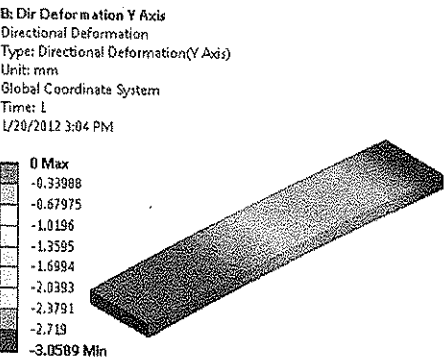

Figure 9-20 Directional Deformation with respect to Y axis
Figure 9-20 shows the default view of the finite element model with the Directional Deformation with respect to Y axis.
10. Select **Directional Deformation** in the Tree Outline; the corresponding deformation along the Y axis is displayed in the Graphics screen, refer to Figure 9-20.